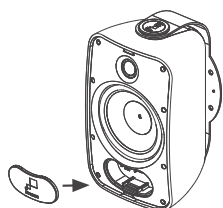

FIGURE 10:
7. Fit the wiring connector cover into the recess in the speaker's front panel. The cover should fit tightly, but can be removed and replaced if the speaker needs to be disconnected (see figure 10).